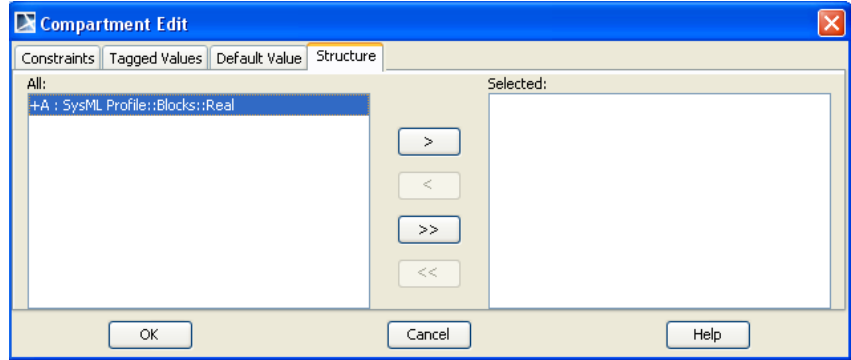

Figure 2.12 Edit Compartment window
- iii. Select **A** from the Edit Compartment window (Figure 2.12)